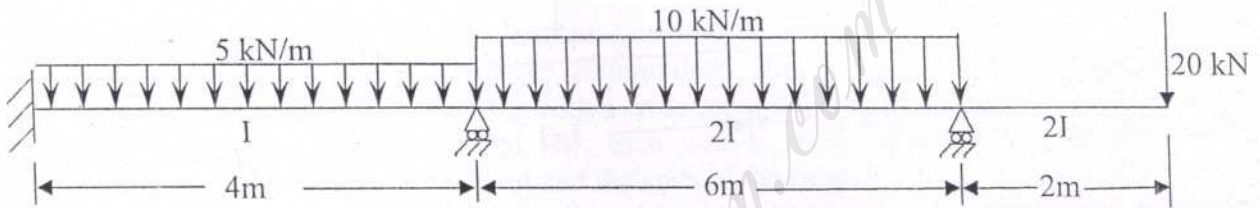

Fig. Q.7
- Q. 7) Analyze the continuous beam loaded as shown in Fig. Q. 7 by either the Slope Deflection Method or the Moment Distribution Method. Calculate the joint moments and sketch the B. M. diagram.